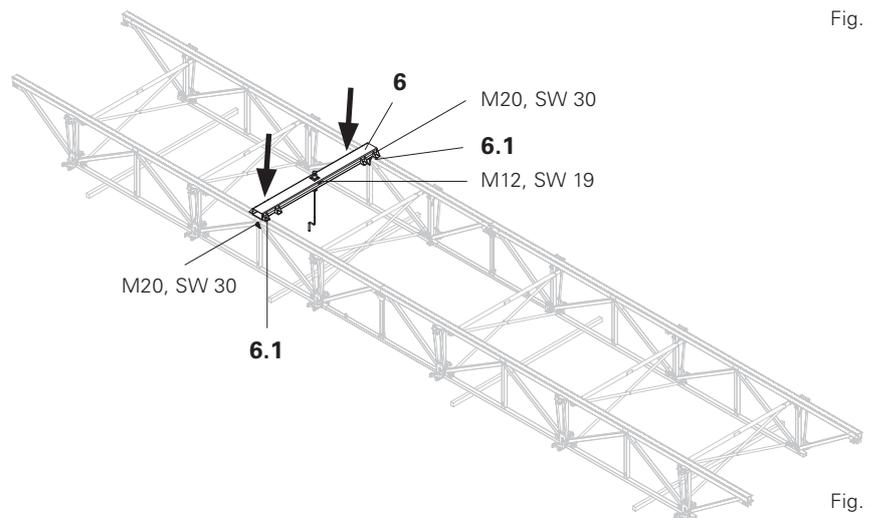

Fig. A2.13
3. Place Lifting Traverse (6) on the support (6.1) and top chords. Fix in position using two hex. bolts and nuts M20 (SW 30) each side. (Fig. A2.13)